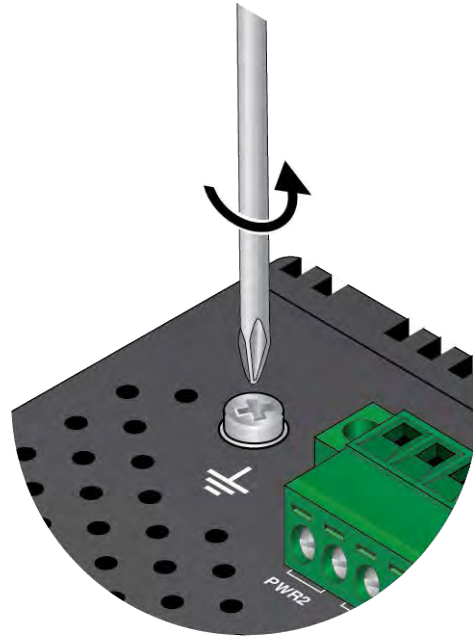

Figure 38. Removing the Grounding Screw
7. Remove the grounding screw from the switch with a #2 Phillips-head screwdriver. Refer to Figure 38.